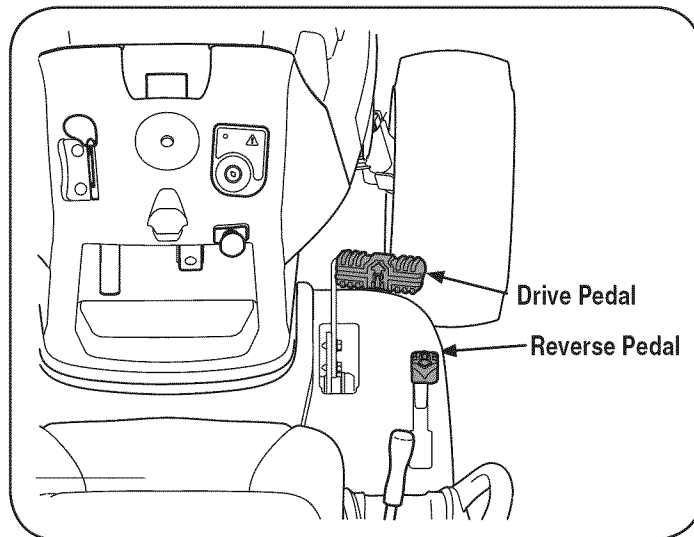

Figure 7
2. To travel FORWARD, slowly press the upper portion of the drive pedal forward until the desired speed is achieved. See Figure 7.
3. To travel in REVERSE, check that the area behind is clear, then slowly depress the reverse pedal with the ball of your foot (NOT your heel) until the desired speed is achieved. See Figure 7.